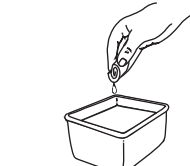

Fig. 31
- Wash the filter in detergent and water (Fig. 31). Rinse the filter thoroughly and allow it to dry.